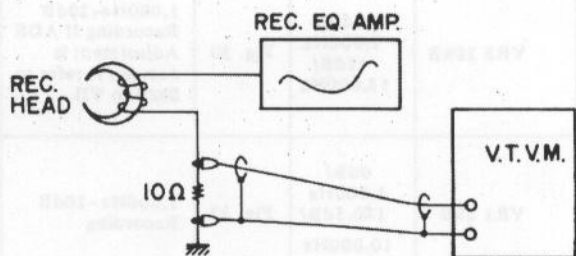

Fig. 36
2. As shown in Fig. 36, connect a High Sensitivity V.T.V.M. to both terminals of the 10Ω fixed resistor.